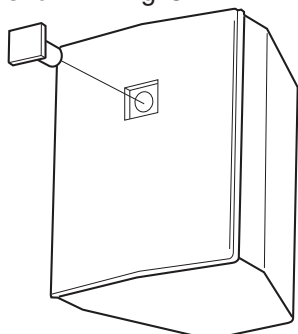

Fig. 3
3. Remove the logo badge on the speaker grill by pulling it straight out as shown in Fig. 3.